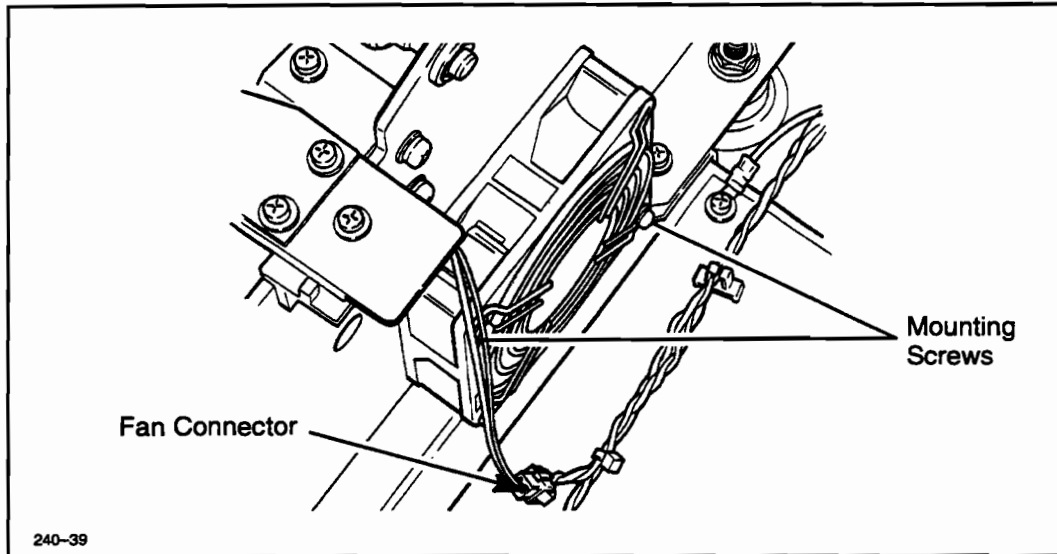

Figure 6-46. Fan 2 Removal
3. Disconnect the fan wires at the connector. See Figure 6-46.